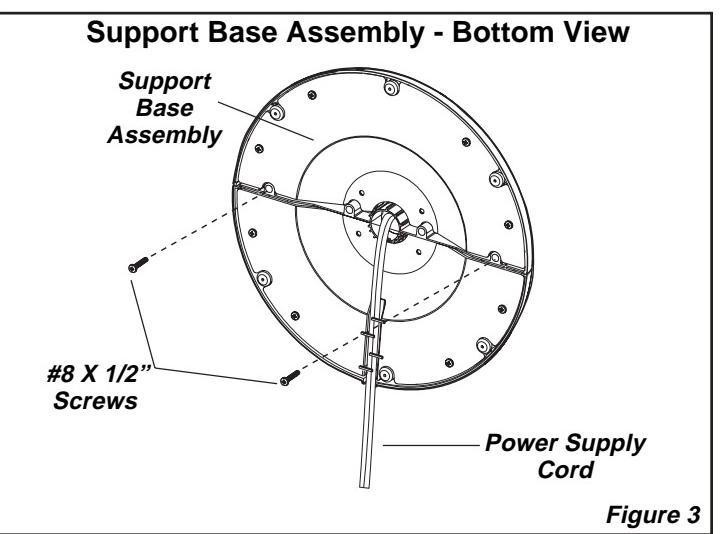

Figure 3
5. Secure the **(2) #8 X 1/2" Screws** into the two holes in the bottom of the base. (Figure 3)